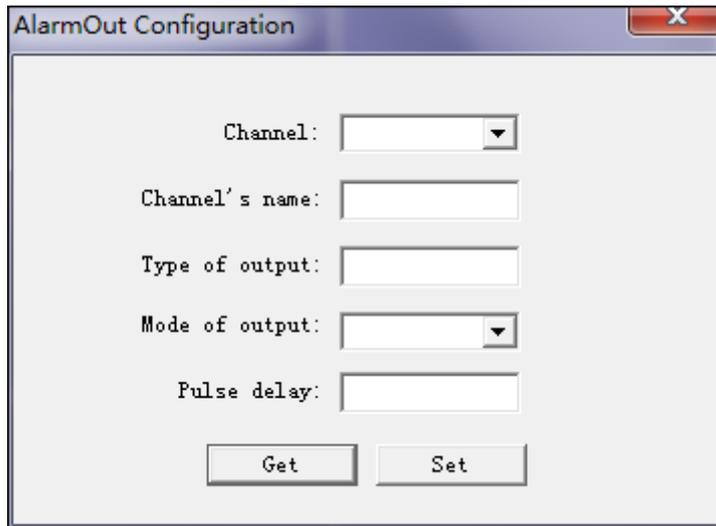

Figure 2- 6
Step 2. Click Setup. See Figure 2- 6.
Step 4. Configure parameters. Please refer to Figure 2- 3.